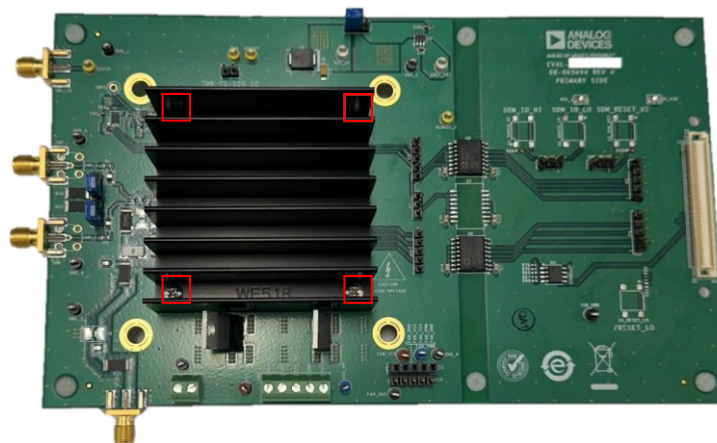

Figure 7. ADHV4710 Evaluation Board with Heat Sink
4. Mount the heat sink and secure four screws (PN 9902) onto the board with four hex nuts (PN HN55440), as shown in Figure 7. Use a torque screwdriver to alternatively tighten the four screws, alternating diagonally like tightening lug nuts on a car tire, to 6 in-oz on each.